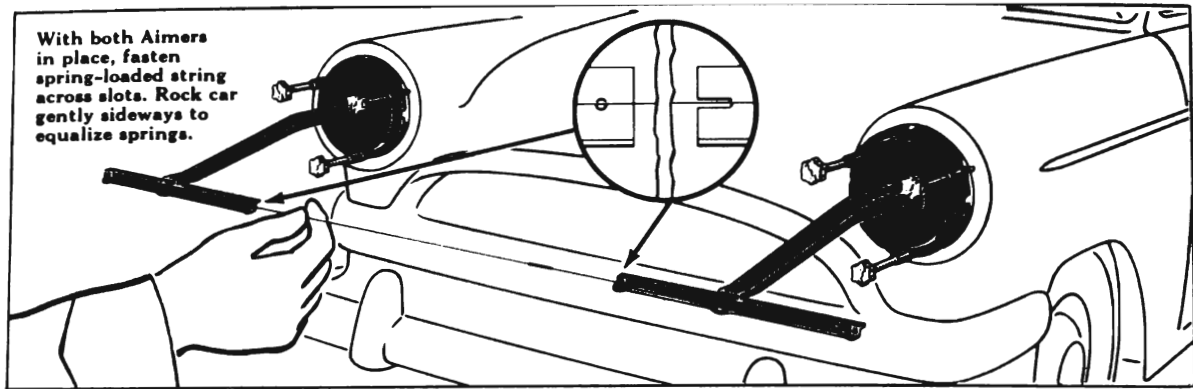

Figure 10-66—Fastening String Across Aimers
5. With both aimers in place, fasten spring-loaded string across slots. Rock car gently sideways to equalize springs. See Figure 10-66.